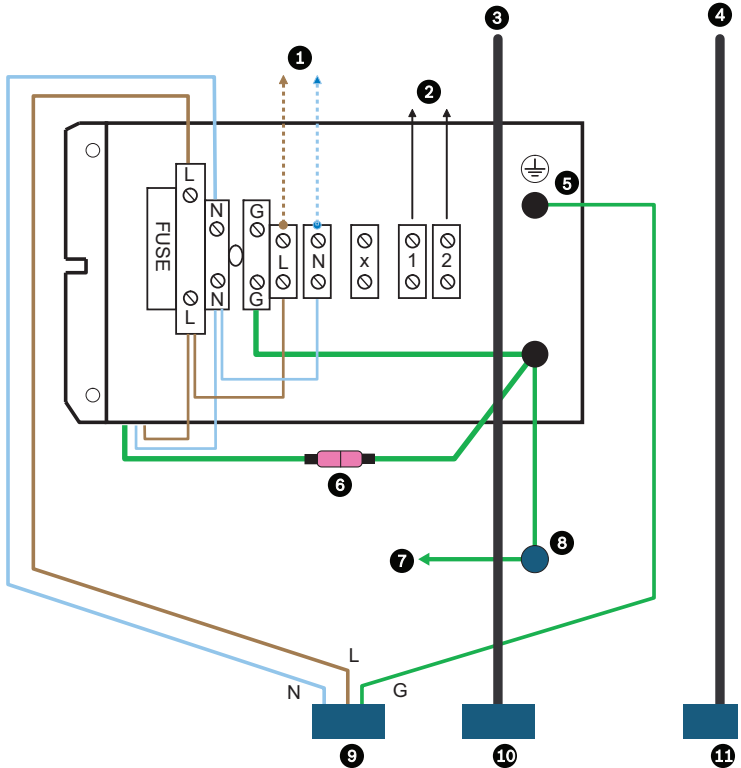

Figure 5.8 Terminal wiring diagram
3. Connect the supply power wires to the terminal block. See *Figure 5.8*. Strip no less than 6 mm (0.25 in) and no more than 8 mm (0.31 in) of insulation away from the wire. Be sure not to nick the wires.
4. Cut the power cord on 120 VAC and 230 VAC camera models; leave enough cable to allow connection to the terminal block. Strip no less than 6 mm (0.25 in) and no more than 8 mm (0.31 in) of insulation away from the wire. Be sure not to nick the wires. Connect these wires to the connectors provided on the terminal block. See *Figure 5.8*.